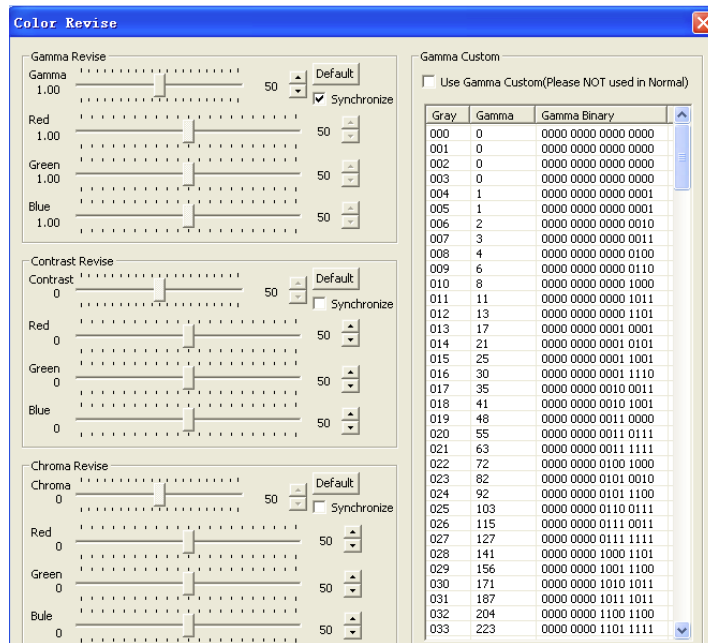
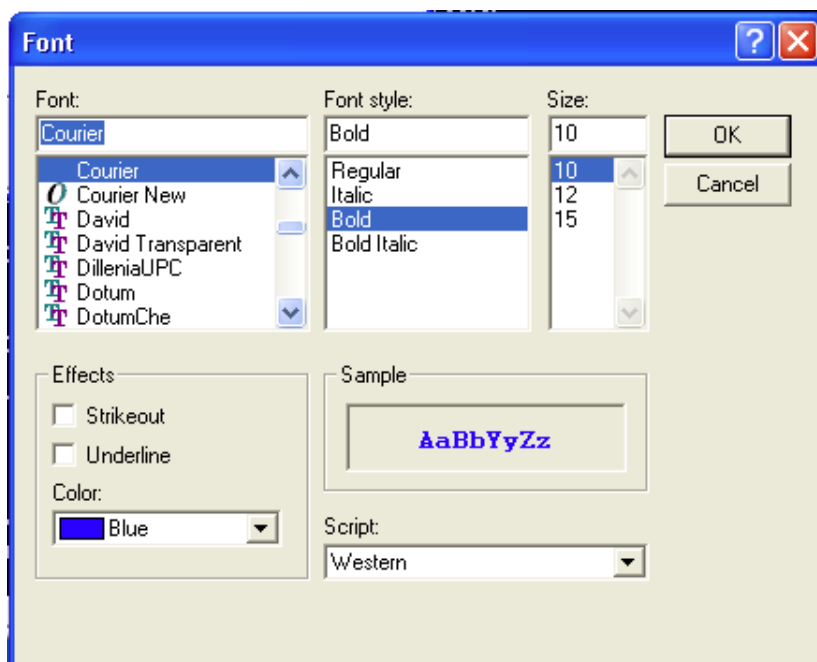

Fig 31.
Fig 34.
Click the “**Colour**” button on the control software’s main window, and the “**Colour Revise**” window appears (Fig 31.).
The colour revision includes the gamma revision, contrast revision and the chroma revision. You can perform the colour revision while the screen is working and all the changes you made will be applied immediately on real time. When doing the colour revision, make any change by considering the screen’s working environment and the materials making the screen. The default value for every parameter in the colour revision is 50. If you have made lots of errors and don’t want to correct them one by one, then you just need to click the “Default” buttons on the window (Fig 31) to restore the default value for every parameter. Please note that the default value is not always the best. Consult the manufacturer of the screen for the correct value of every parameter in the colour revision.
On the “**Colour Revise**” window (Fig 31.), you can either simply drag the slider(s) in the “**Gamma Revise**” section to adjust the gamma value, or manually edit the gamma value for a gray level in the range of 0 to 255 in the “**Gamma Custom**” section.
In the “**Gamma Revise**” section on the “Colour Revise” window (Fig 31.), the gamma slider bar range is from 0 to 100. A number in this range is corresponding to an actual gamma value. Adjust the gamma value by considering the screen’s working environment and the materials making the screen. Consult the manufacturer of the screen for the proper gamma value.
The “**Gamma Custom**” section (Fig 31.) allows a user to manually edit the gamma value for a gray level in the range of 0 to 255. Normally, you don’t need to edit gamma values manually.
**The synchronous revision:** In the “**Gamma Revise**” section, tick the box indicating the “**Synchronize**” (Fig 31). Then drag the slider on the gamma slider bar or click the “**up/down**” arrow to adjust the gamma value. In this case, the gamma values of red, green and blue will synchronize.
**The asynchronous revision:** In the “**Gamma Revise**” section, clear the box indicating the “**Synchronize**” (Fig 31.). Then the red, green or blue gamma value can be adjusted independently according to the specifications of the screen.
The contrast revision is based on the histogram revision (Fig 31.). The image is revised by using the non-linear adjusting curve to achieve the best visual effect. The contrast slider bar rang is from 0 to 100. Different numbers in this range are corresponding to different contrast S curves. Adjust the contrast value by considering the screen’s working environment and the materials making the screen. Consult the manufacturer of the screen for the proper contrast value.
**The synchronous revision:** In the “**Contrast Revise**” section, tick the box indicating the “**Synchronize**” (Fig 31). Then drag the slider on the contrast slider bar or click the “**up/down**” arrow to adjust the contrast value. In this case, the contrast values of red, green and blue will synchronize.
**The asynchronous revision:** In the “**Contrast Revise**” section, clear the box indicating the “**Synchronize**” (Fig 31.). Then the red, green or blue contrast value can be adjusted independently according to the specifications of the screen.
The colour blending of red, green and blue may lean to a certain hue due to the materials making the screen ect. To accurately identify some chroma problems such as the color cast problem and the low saturation problem, and to solve these problems by adjusting the chroma value in the “Chroma Revise” section (Fig 31.), you need to know the values of gray levels of the red, green and blue. In the “**Chroma Revise**” section, the chroma slider bar range is from 0 to 100. Different numbers in this range are corresponding to different chroma values. Adjust the chroma value by considering the screen’s working environment and the materials making the screen. Consult the manufacturer of the screen for the proper chroma value.
**The synchronous revision:** In the “**Chroma Revise**” section, tick the box indicating the “**Synchronize**” (Fig 31.). Then drag the slider on the chroma slider bar or click the “**up/down**” arrow to adjust the chroma value. In this case, the chroma values of red, green and blue will synchronize.
**The asynchronous revision:** In the “**Chroma Revise**” section, clear the box indicating the “**Synchronize**” (Fig 31.). Then the red, green or blue chroma value can be adjusted independently according to the specifications of the screen.
To set up the font of the text of the message, click the “**Font**” button on the control software’s main window (Fig 31.) and the “**Font**” window will pop out (Fig 34.). On the “**Font**” window, you can configure several properties for the text of the message including the font, the font style, the font size and the font colour. The “**Sample**” section reflects your configuration. After setting up the font, click the “**OK**” button to apply the configuration or the “**Cancel**” button to give up the configuration (Fig 34.).